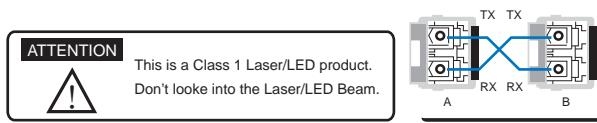

Figure-5
2. Connecting the SFP Port: Plug in SFP fiber transceiver. We recommend using Korenix certificated SFP mini GBIC transceiver. Cross-connect the transmit channel at each end to the receive channel at the opposite end as illustrated in the Figure-5.